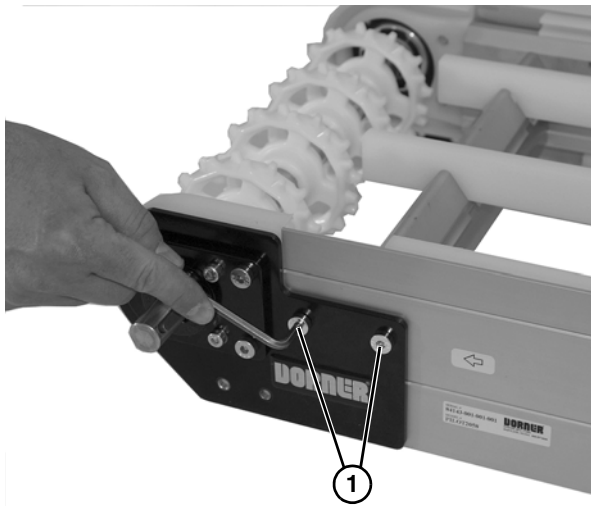

Figure 39
2. Remove the two socket head screws (Figure 39, item 1). Repeat on opposite side.